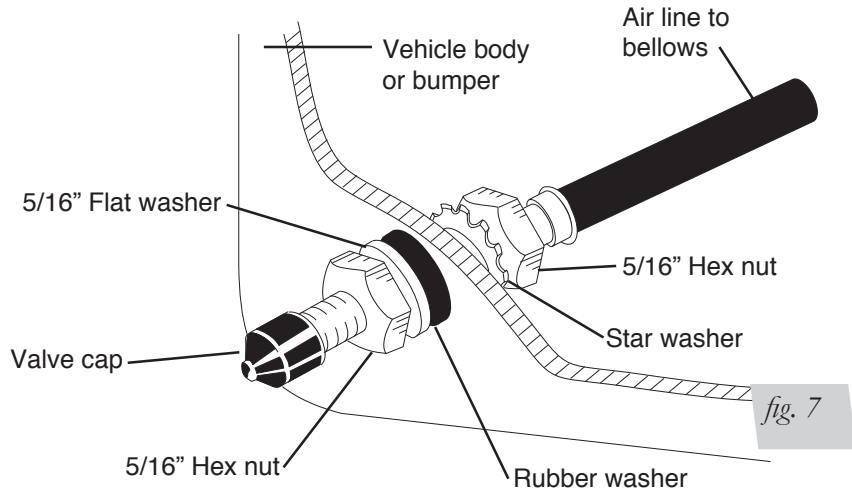

fig. 7
- Place a 5/16" nut (GG) and a star washer (FF) on the air valve. Leave enough of the inflation valve in front of the nut to extend through the hole and have room for the rubber washer (EE), flat washer (DD), and 5/16" nut (GG) and cap (CC). There should be enough valve exposed after installation - approximately 1/2" - to easily apply a pressure gauge or an air chuck (fig. 7).
- Push the inflation valve through the hole and use the rubber washer (EE), flat washer (DD), and another 5/16" nut (GG). Tighten the nuts to secure the assembly in place (fig. 7).